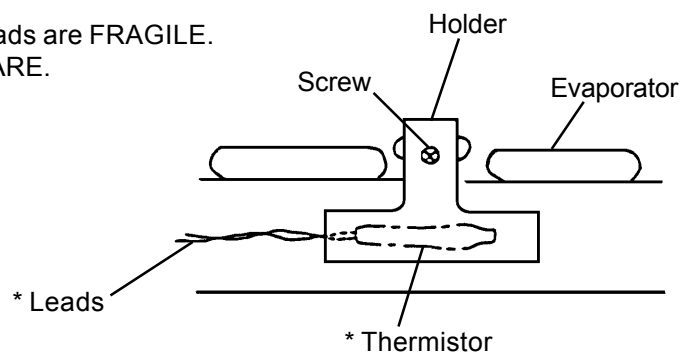

Fig. 10
- 5) Install the new thermistor in the reverse order of the removal procedure, by using a sealant (high-thermal conductive type). See Fig. 10.